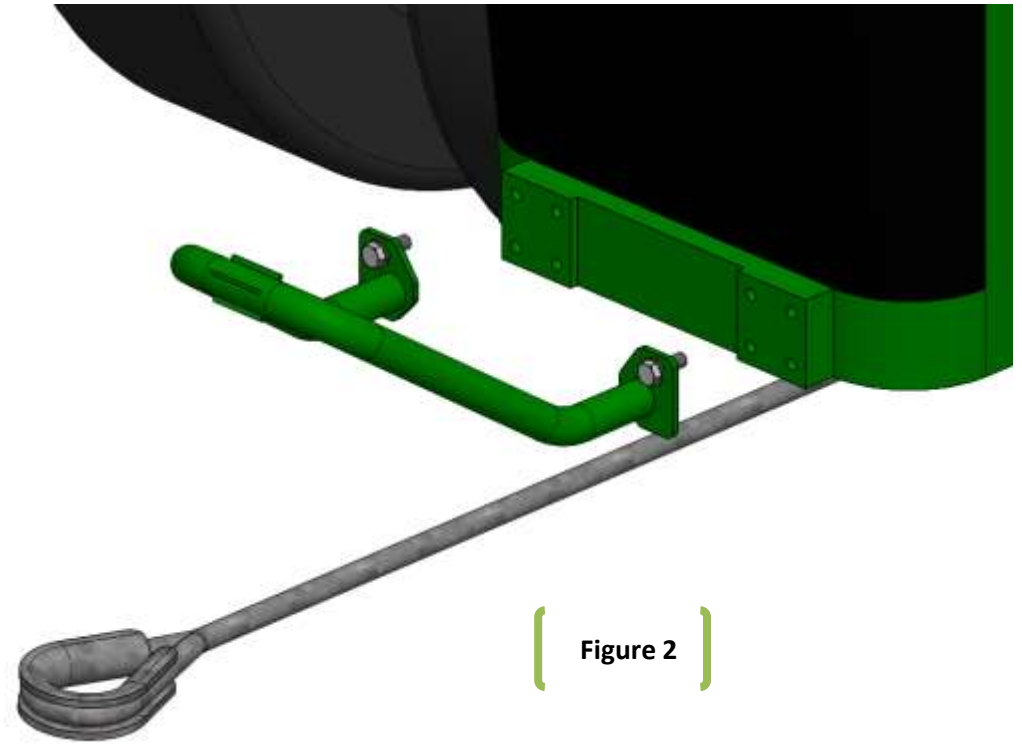

Figure 2
2. Tractors **without** Weight Bracket (See Figure 2) - Bolt LAN8RTC008 onto the front of the tractor frame with two bolts (LANF1SA3) and flat washers (LANF-FW-M20).